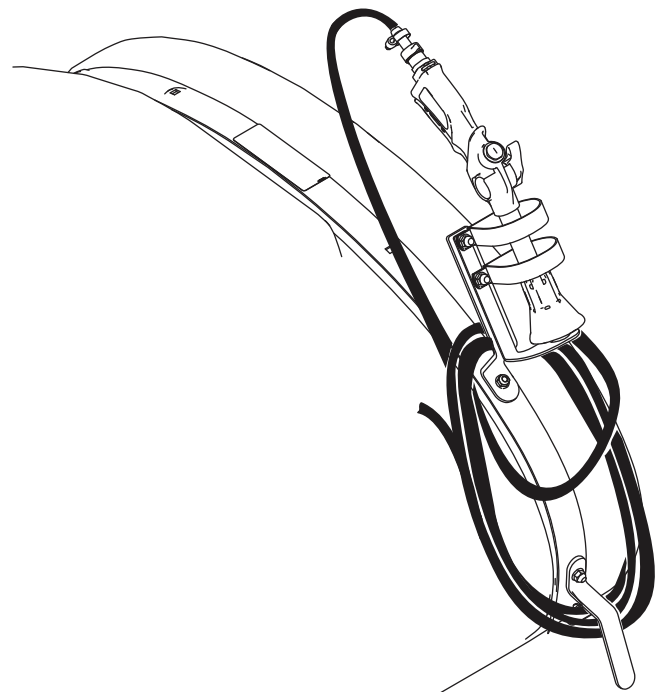

Figure 13
5. Wrap the hose around the hooks on the tank and place the spray gun in the gun bracket as shown in Figure 13.